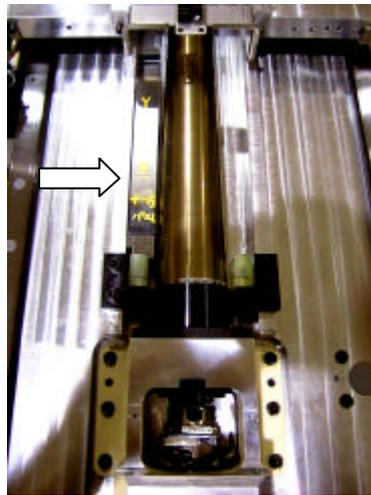

Figure 3
2. Install the Y-axis spacer jig (225mm) (Fig.3) and pull the table against the jig.(Jig No.: DGPJ0161)